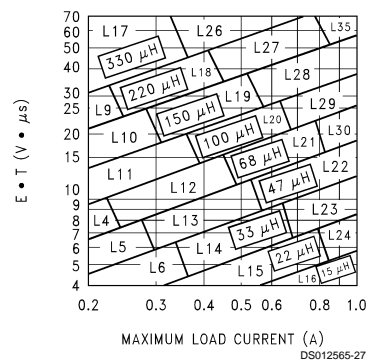

FIGURE 7. LM2595-ADJ
| <p>2. Inductor Selection (L1)</p> <p>A. Calculate the inductor Volt • microsecond constant E • T (V • μs), from the following formula:</p> $E \cdot T = (V_{IN} - V_{OUT} - V_{SAT}) \cdot \frac{V_{OUT} + V_D}{V_{IN} - V_{SAT} + V_D} \cdot \frac{1000}{150 \text{ kHz}} (V \cdot \mu\text{s})$ <p>where V_{SAT} = internal switch saturation voltage = 1V and V_D = diode forward voltage drop = 0.5V</p> <p>B. Use the E • T value from the previous formula and match it with the E • T number on the vertical axis of the Inductor Value Selection Guide shown in Figure 7.</p> <p>C. on the horizontal axis, select the maximum load current.</p> <p>D. Identify the inductance region intersected by the E • T value and the Maximum Load Current value. Each region is identified by an inductance value and an inductor code (LXX).</p> <p>E. Select an appropriate inductor from the four manufacturer's part numbers listed in Figure 8.</p> <p>3. Output Capacitor Selection (C_{OUT})</p> <p>A. In the majority of applications, low ESR electrolytic or solid tantalum capacitors between 47 μF and 330 μF provide the best results. This capacitor should be located close to the IC using short capacitor leads and short copper traces. Do not use capacitors larger than 330 μF. For additional information, see section on output capacitors in application information section.</p> <p>B. To simplify the capacitor selection procedure, refer to the quick design table shown in Figure 3. This table contains different output voltages, and lists various output capacitors that will provide the best design solutions.</p> <p>C. The capacitor voltage rating should be at least 1.5 times greater than the output voltage, and often much higher voltage ratings are needed to satisfy the low ESR requirements needed for low output ripple voltage.</p> <p>4. Feedforward Capacitor (C_{FF}) (See Figure 1)</p> <p>For output voltages greater than approximately 10V, an additional capacitor is required. The compensation capacitor is typically between 50 pF and 10 nF, and is wired in parallel with the output voltage setting resistor, R₂. It provides additional stability for high output voltages, low input-output voltages, and/or very low ESR output capacitors, such as solid tantalum capacitors.</p> $C_{FF} = \frac{1}{31 \times 10^3 \times R_2}$ <p>This capacitor type can be ceramic, plastic, silver mica, etc. (Because of the unstable characteristics of ceramic capacitors made with Z5U material, they are not recommended.)</p> | <p>2. Inductor Selection (L1)</p> <p>A. Calculate the inductor Volt • microsecond constant (E • T),</p> $E \cdot T = (28 - 20 - 1) \cdot \frac{20 + 0.5}{28 - 1 + 0.5} \cdot \frac{1000}{150} (V \cdot \mu\text{s})$ $E \cdot T = (7) \cdot \frac{20.5}{27.5} \cdot 6.67 (V \cdot \mu\text{s}) = 34.8 (V \cdot \mu\text{s})$ <p>B. E • T = 34.8 (V • μs)</p> <p>C. I_{LOAD(max)} = 1A</p> <p>D. From the inductor value selection guide shown in Figure 7, the inductance region intersected by the 35 (V • μs) horizontal line and the 1A vertical line is 100 μH, and the inductor code is L29.</p> <p>E. From the table in Figure 8, locate line L29, and select an inductor part number from the list of manufacturers part numbers.</p> <p>3. Output Capacitor Selection (C_{OUT})</p> <p>A. See section on C_{OUT} in Application Information section.</p> <p>B. From the quick design table shown in Figure 3, locate the output voltage column. From that column, locate the output voltage closest to the output voltage in your application. In this example, select the 24V line. Under the output capacitor section, select a capacitor from the list of through hole electrolytic or surface mount tantalum types from four different capacitor manufacturers. It is recommended that both the manufacturers and the manufacturers series that are listed in the table be used.</p> <p>In this example, through hole aluminum electrolytic capacitors from several different manufacturers are available.</p> <p>82 μF, 35V Panasonic HFQ Series 82 μF, 35V Nichicon PL Series</p> <p>C. For a 20V output, a capacitor rating of at least 30V or more is needed. In this example, either a 35V or 50V capacitor would work. A 35V rating was chosen, although a 50V rating could also be used if a lower output ripple voltage is needed.</p> <p>Other manufacturers or other types of capacitors may also be used, provided the capacitor specifications (especially the 100 kHz ESR) closely match the types listed in the table. Refer to the capacitor manufacturers data sheet for this information.</p> <p>4. Feedforward Capacitor (C_{FF})</p> <p>The table shown in Figure 3 contains feed forward capacitor values for various output voltages. In this example, a 1 nF capacitor is needed.</p> |